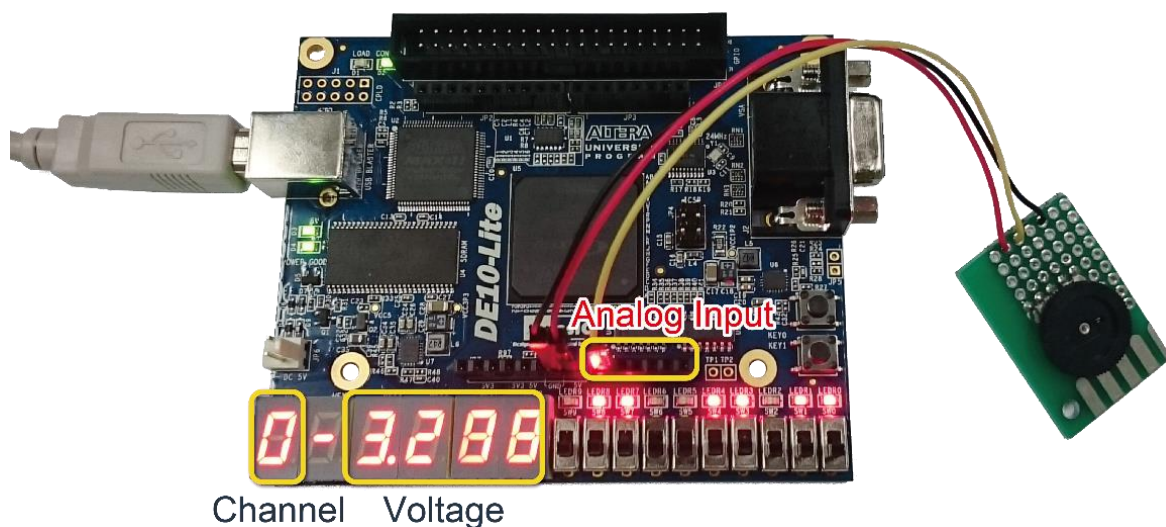

Figure 5-11 7-Segment display the measured channel and voltage
- The measured channel and voltage will be displayed on the 7-segment display as shown in Figure 5-11.